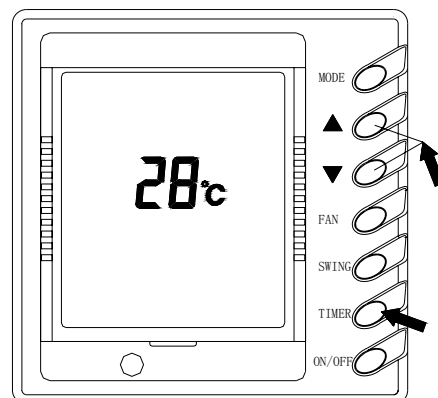

Fig2
### 1) On/Off (Fig.2)
**Note:** The displaying in fig.2 is the turned off state after connecting with power supply. After connecting power and normal communication, the environmental temp. will be displayed on LCD under state of both turned on or off. At this time, as shown in fig.3 there is no pane displayed on LCD, which means that the air conditioner is turned off.